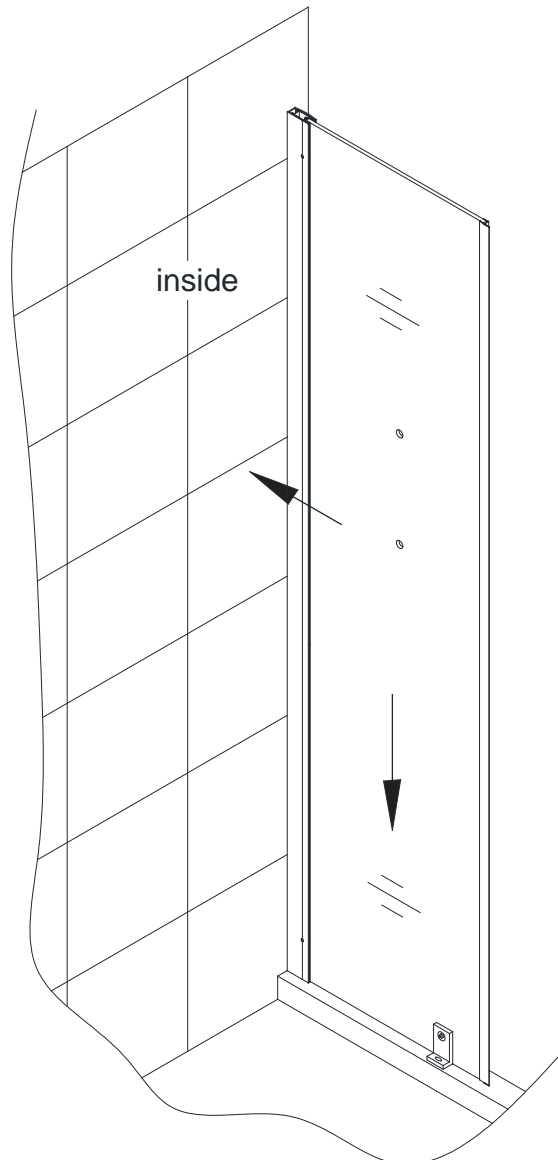

**Fig 3**
**3.** Press the **Anti-Water Strip (inline) (#19)** onto the vertical edge of the **Panel Glass (#11)**. (This will protect the edge of the panel glass and allow for proper spacing with the door glass). Attach the **Bottom Bracket (#18)** through the bottom hole of the **Panel Glass (#11)**. (**Fig 3**)